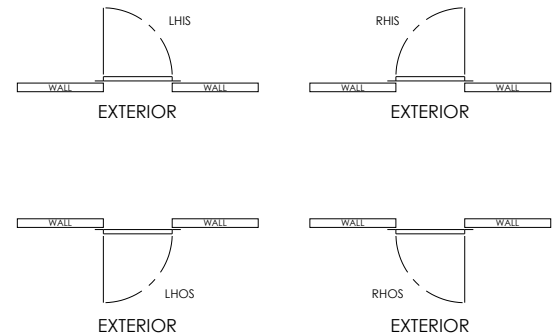

Figure 1
Standard installation is for outswing doors (**See Fig. 1**). Any build out or trimming required to get the proper opening width should be performed on the latch side as the hinge side is weight bearing. Use appropriate shims (not included) to keep the hinge and latch sides plumb and square.
- **Please note that in-swing doors mount on the inside of the room and follow the same directions. See Fig. 1.**